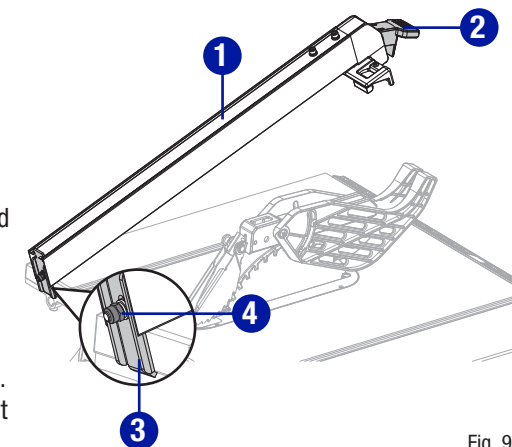

Fig. 9a
RIP FENCE INSTALLATION AND USE (Fig. 9a-9b)**INSTALLATION:**
The rip fence must be secure when the locking handle is engaged. To increase the grip of the rip fence on the rear lip of the table, tighten the clamp screw (4) on the rear of the rip fence by turning it clockwise. (Fig. 9a)